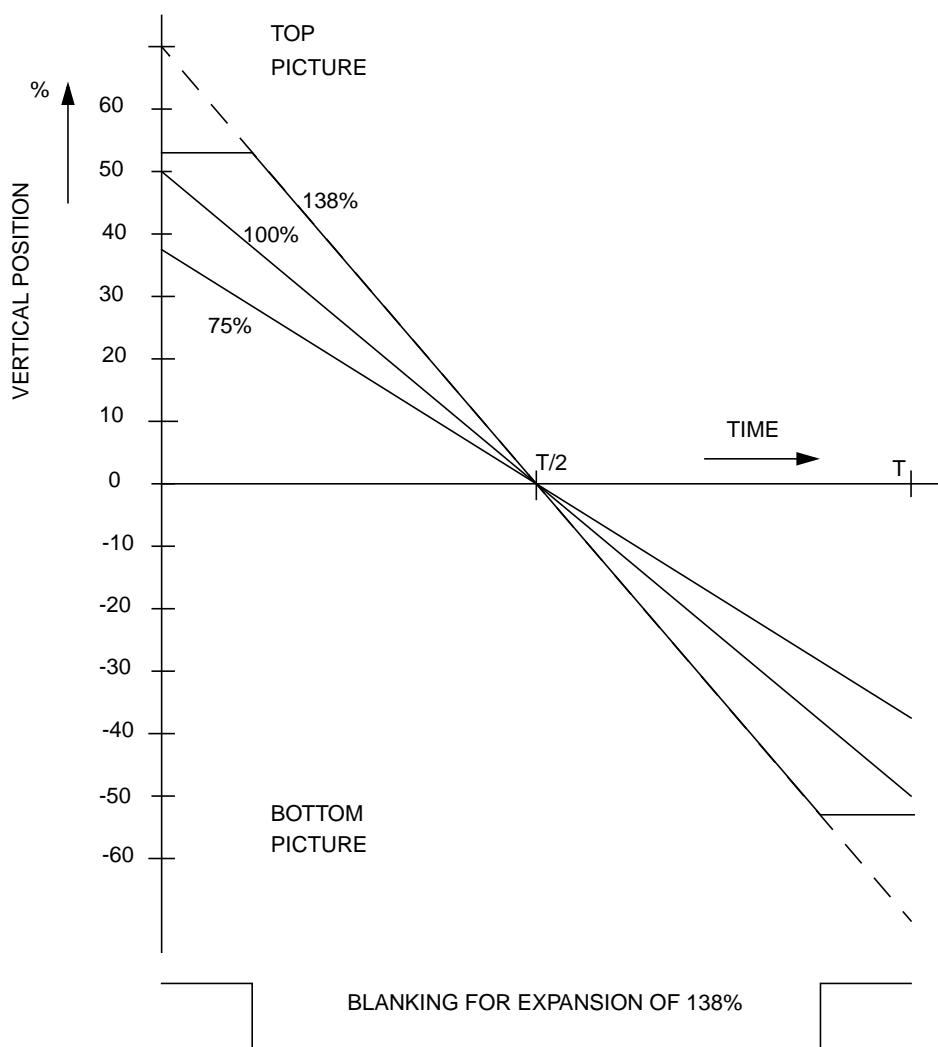

Fig. 53 Sawtooth waveform and blanking pulse for 110° types
44. The ICs have a zoom adjustment possibility for the horizontal and vertical deflection. For this reason an extra DAC has been added in the vertical amplitude control which controls the vertical scan amplitude between 0.75 and 1.38 of the nominal scan. At an amplitude of 1.06 of the nominal scan the output current is limited and the blanking of the RGB outputs is activated. This is illustrated in Fig.53.